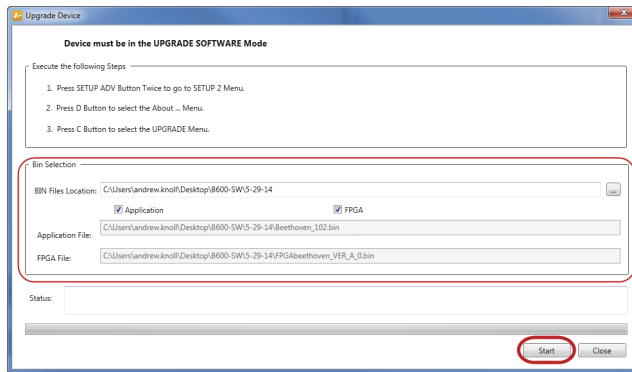

Figure 7-8 The Upgrade Device dialog box
The **Upgrade Device** dialog box opens (see Figure 7-8 on page 186).
6. Under **Bin Selection** in the **Upgrade Device** dialog box, choose the location of the BondMaster 600 software, and then select **Application** and **FPGA** (see Figure 7-8 on page 186).